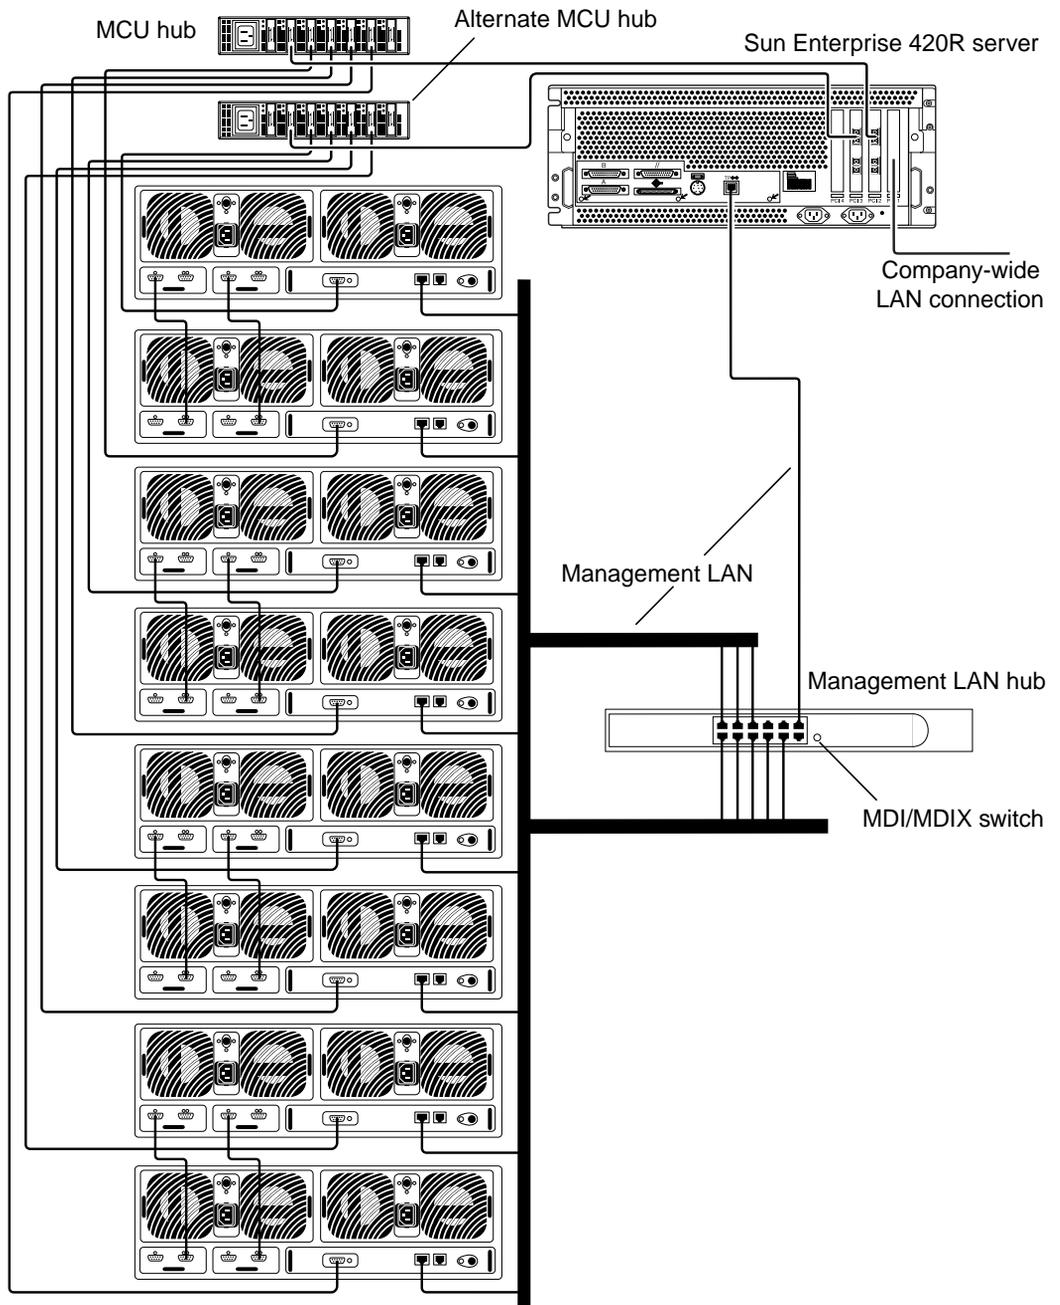

FIGURE 3 Connections for Sun StorEdge N8400 Filer Partner Groups
2. Connect the other end of the fiber-optic cable to the next available port of the MCU Fibre Channel Arbitrated Loop (FC-AL) hub as shown in FIGURE 3 on page 9.
4. Connect the other end of the fiber-optic cable to the next available port of the alternate MCU FC-AL hub as shown in FIGURE 3 on page 9.
2. **Connect the other end of the Ethernet cable to the next available port of the 10/100BASE-T Ethernet hub as shown in FIGURE 3 on page 9.**
4. **Connect the other end of the Ethernet cable to the next available port of the 10/100BASE-T Ethernet hub as shown in FIGURE 3 on page 9.**
- **Verify all cable connections as shown in FIGURE 3 on page 9.**
The partner groups are connected to a local area network (LAN) as shown in FIGURE 3 on page 9. To set up the connectivity for a partner group, see your network administrator to get the IP addresses you need and perform the following steps.